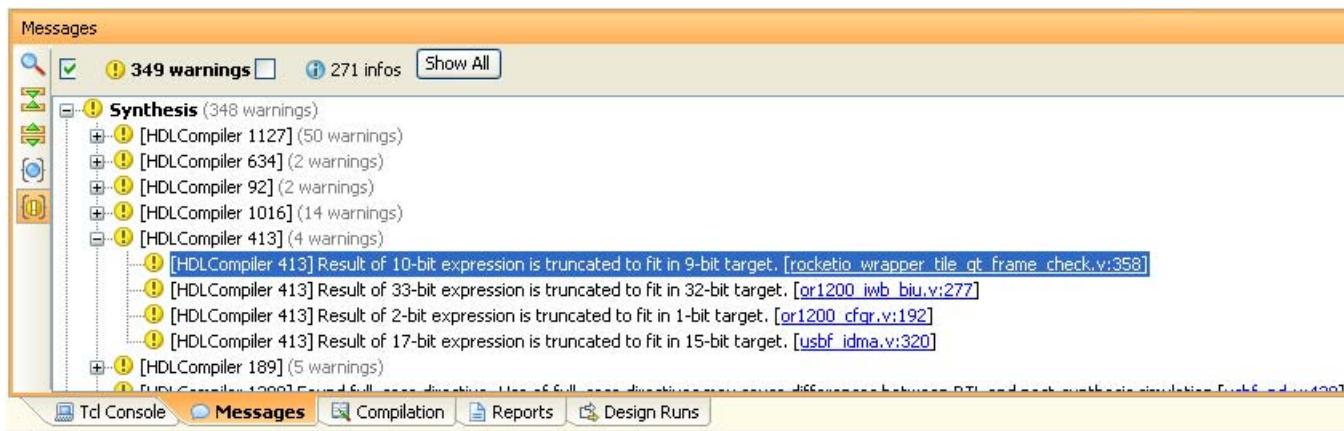

Figure 4-7: Messages View
Messages are grouped under specific headings to enable quick location of messages from different tools or processes. For instance, when you open the Synthesized Design, the PlanAhead tool displays the design and reports messages in the Message view, as shown in Figure 4-7.
- Use **Group messages by file** to sort the messages for each source file, as shown in Figure 4-7, page 109.